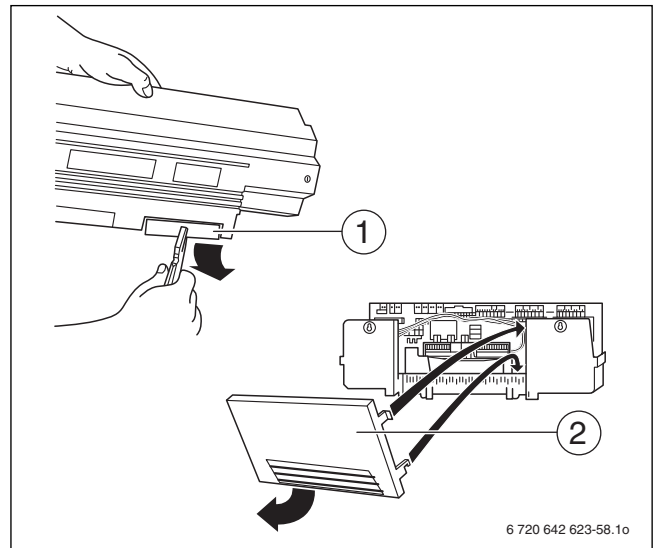

Fig. 47 Preparing the cable entry
- ▶ If necessary, make knock-outs (Fig. 47, [1]) in the rear panel of the cable entry (Logamatic 33..) or remove the rear panel section (Logamatic 43..) (Fig. 47, [2]).
- ▶ Hook the lower hook on the rear panel section (Logamatic 43..) into the clip frame and apply pressure at the top until the side hooks click into place (Fig. 47, [2]).